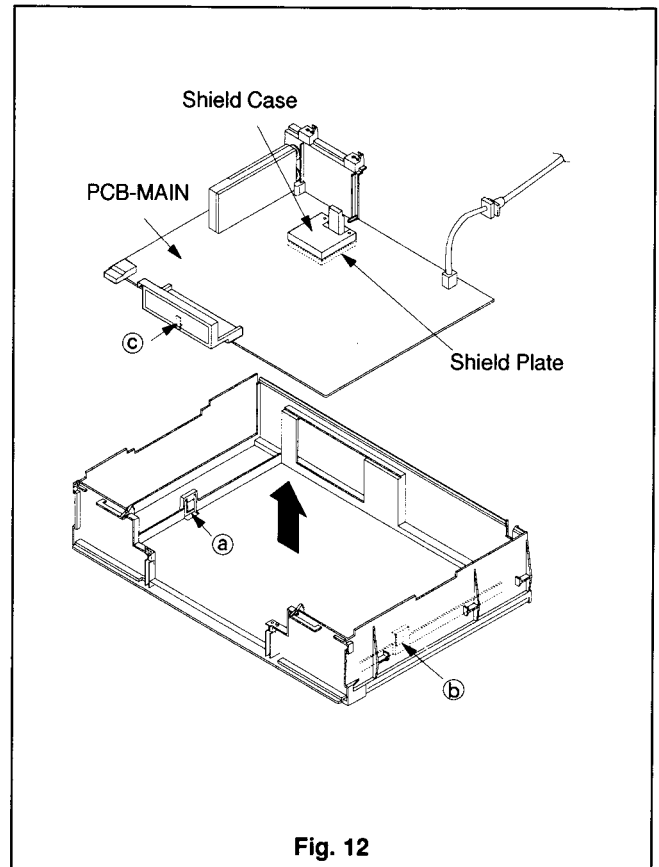

Fig. 12
- 5 Unfasten the three fastening catches (a), (b) and (c) shown in Fig. 12. Raise the PCB-MAIN upward to remove it.
- (1) Unsolder the four soldering points of the Shield Case shown in Fig. 12 and remove it.
- (2) Unsolder the two soldering points of the Shield Plate shown in Fig. 12 and remove it.